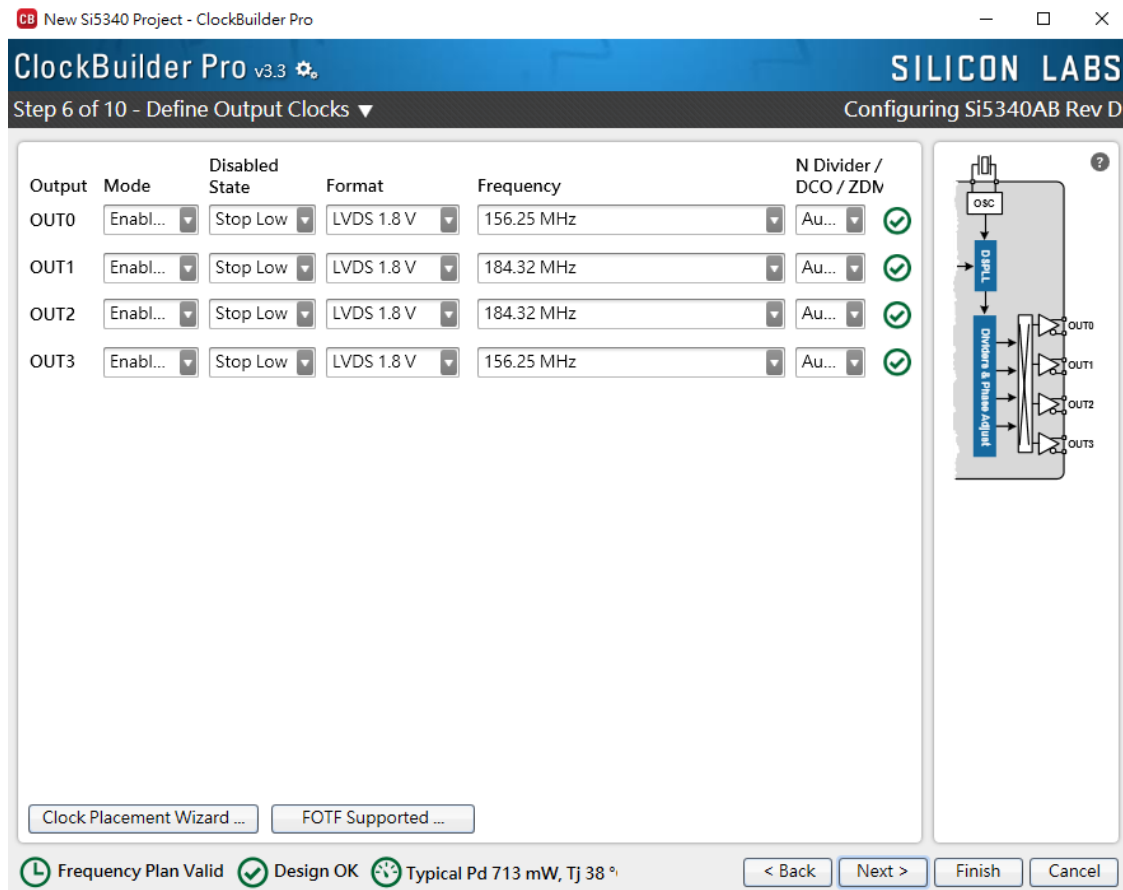

Figure 2-3 Define Output Clock Frequencies on ClockBuilder Pro Wizard
2. After the installation, select Si5340, and configure the input frequency and output frequency as shown in **Figure 2-3**.